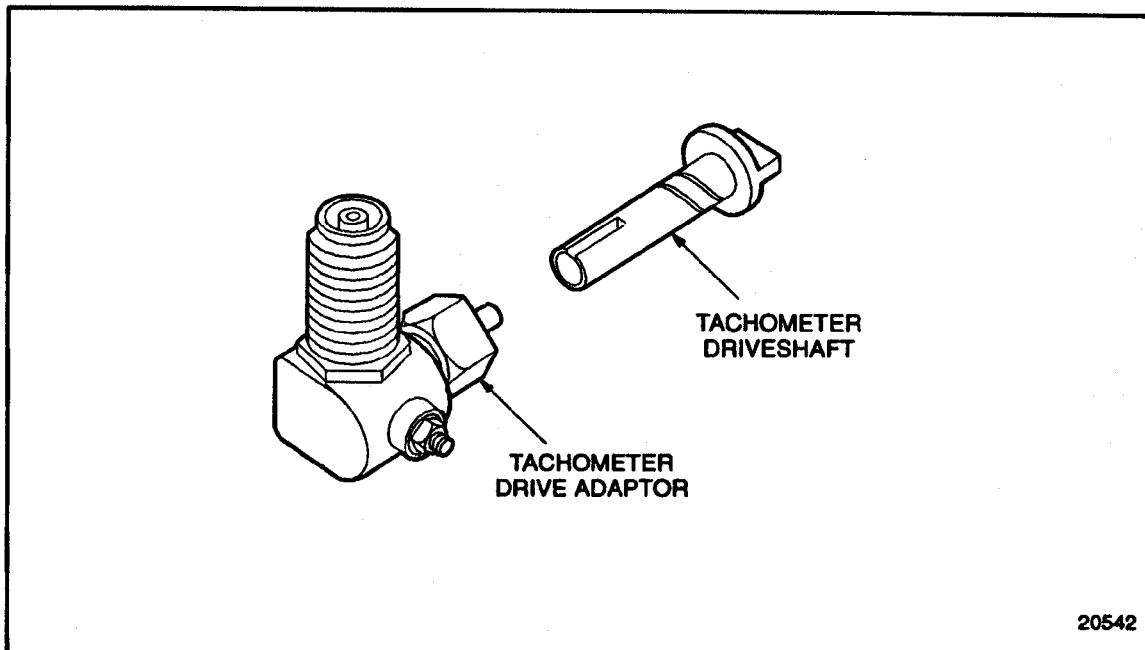

Figure 8-18 Tachometer Drive Unit Installation
3. Using a new gasket, install the camshaft drive gear access cover tachometer drive unit to the engine by indexing the tachometer drive blade with the slotted camshaft drive gear retaining bolt. See Figure 8-18.